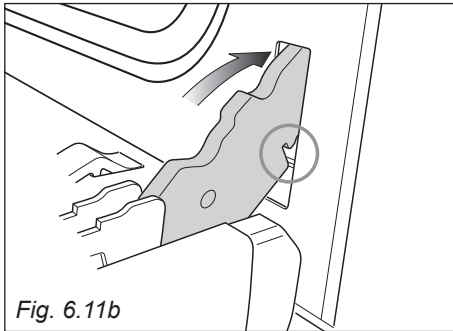

Fig. 6.11b
2. Insert the hinge tongues into the slots, making sure that the groove drops into place as shown in the figure 6.11b.